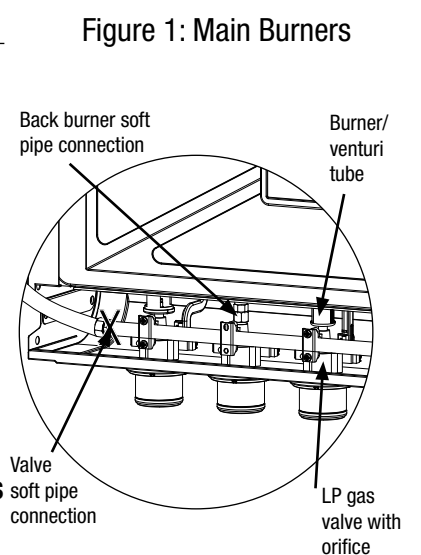

Figure 1: Main Burners
- Please refer to diagram for proper installation (Figures 1 and 2).
- Spoon several drops of solution, or use a squirt bottle, at all "X" locations (Figures 1, 2, 4a and 4b).